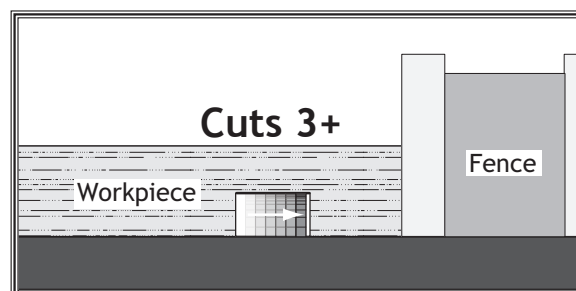

Figure 87. Additional single blade dado cuts.
8. Make additional cuts (see **Figure 87**) in the center of the dado to clear out the necessary material. The dado is complete when the channel is completely cleared out.